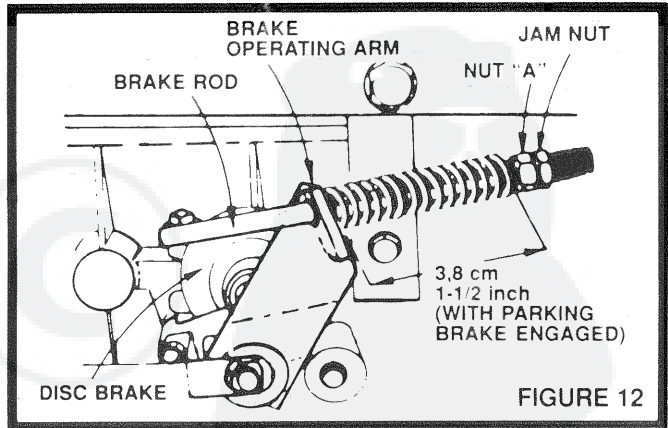

FIGURE 12
- c. If distance is other than 3,8 cm (1-1/2 inch) loosen Jam Nut (Fig 12) and Turn Nut "A" until distance becomes 3,8 cm (1-1/2 inch). Retighten Jam Nut against Nut "A".